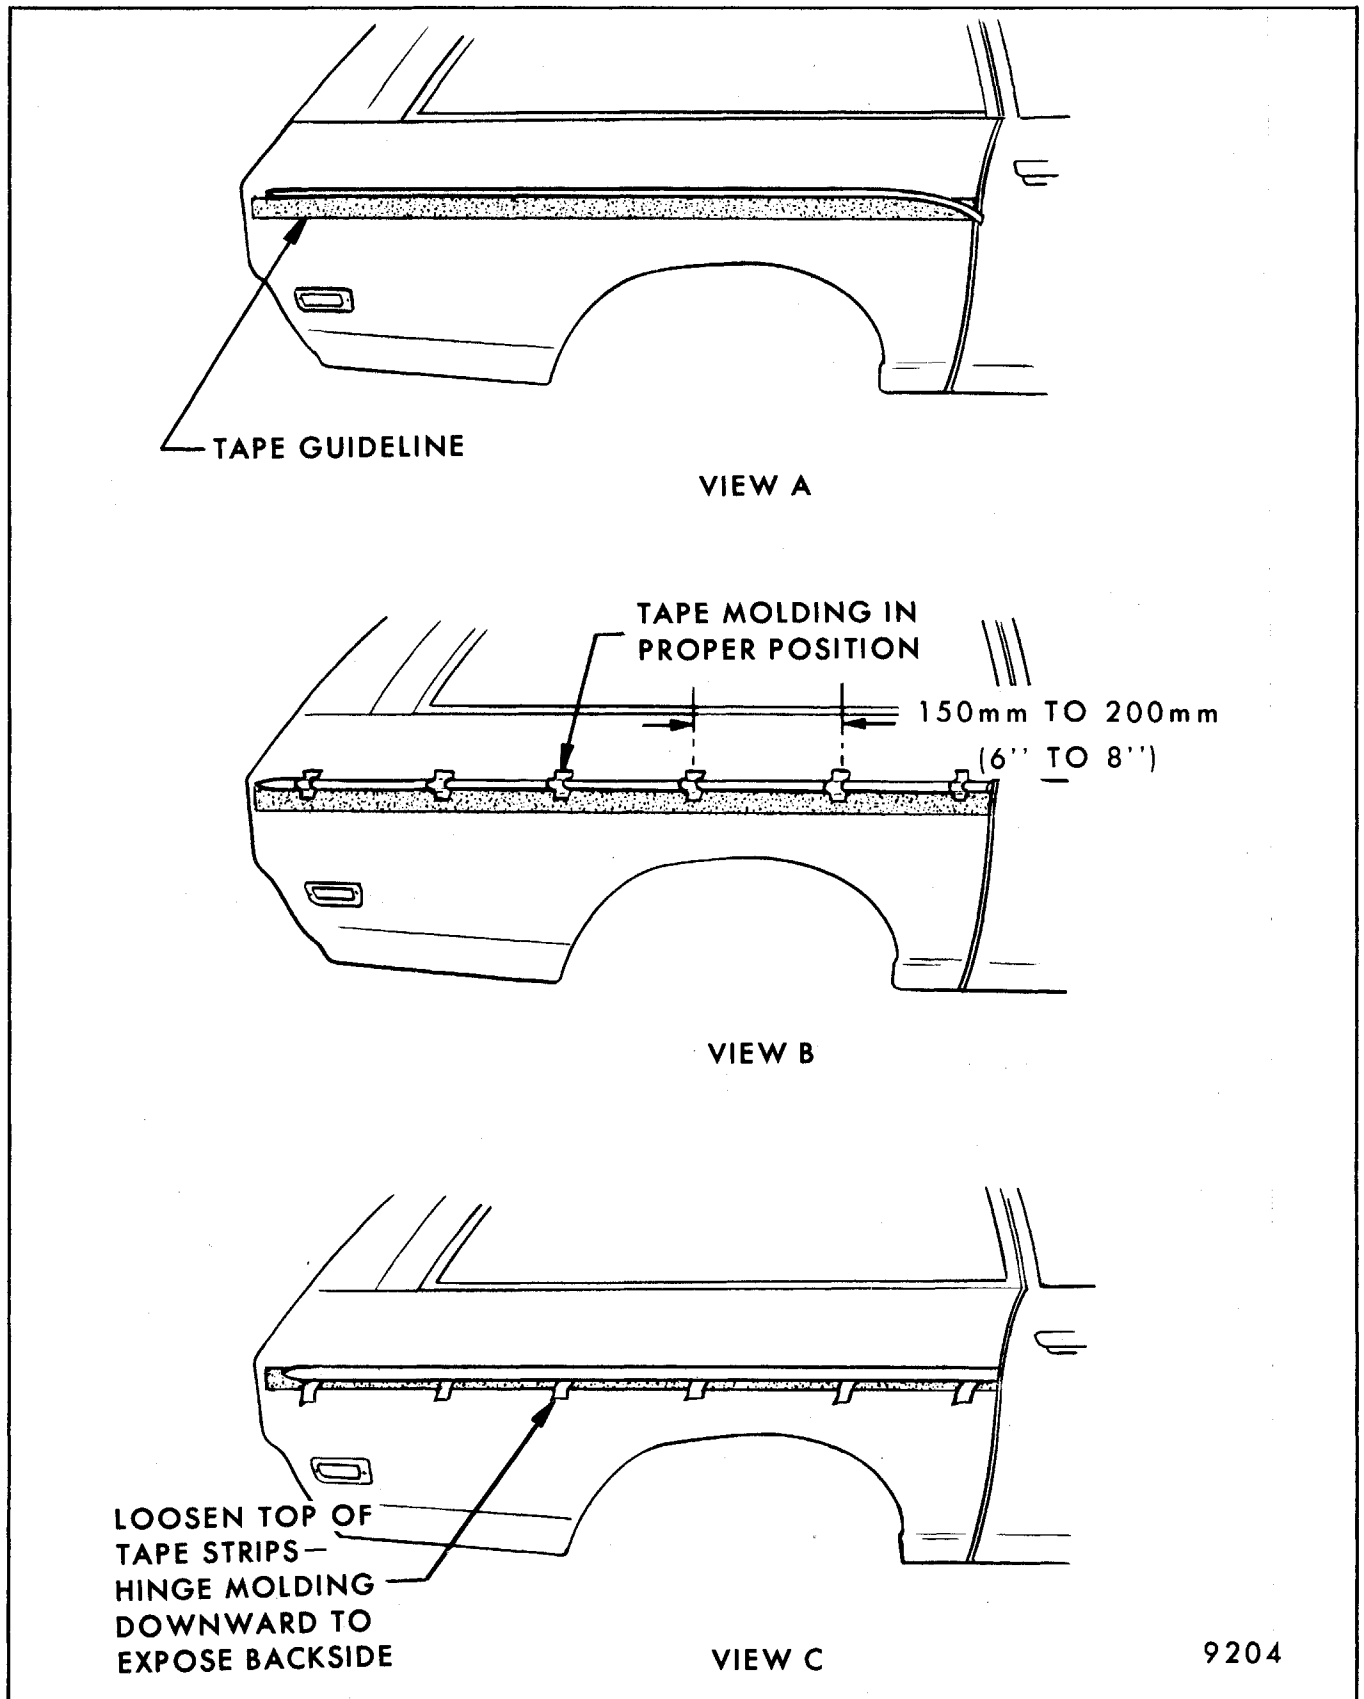

Fig. 1-9 - Adhesive Body Side Molding Repair
3. Hold molding in position with cloth or masking tape strips applied every 150 to 200 mm (6" to 8") as shown in View B, Figure 1-9.
5. Loosen top of tape strips holding molding in position. Hinge molding downward to gain access to back of molding (View C, Fig. 1-9), then using a circular motion, quickly apply a thin film of 3M Super Weatherstrip Adhesive (or equivalent) to the adhesive portion of the molding.
2. Mark proper alignment position with a length of tape, using adjacent moldings as a guide, if applicable (View A, Fig. 1-9).